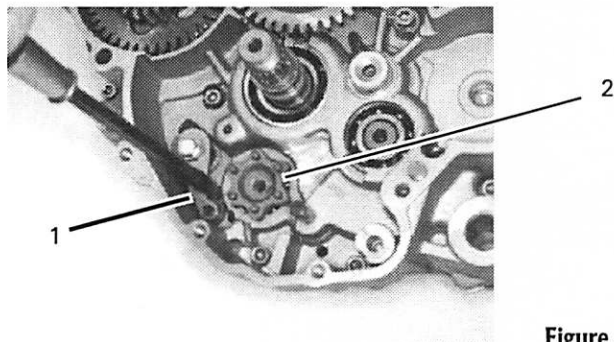

Figure 104
4. Pull the index lever clockwise and hold it in place with a screwdriver (1, Figure 104), then install the shift drum cam (2, Figure 104) onto the shift drum. Align the curved part of the shift drum cam shoulder with the curved part of the shift drum groove.